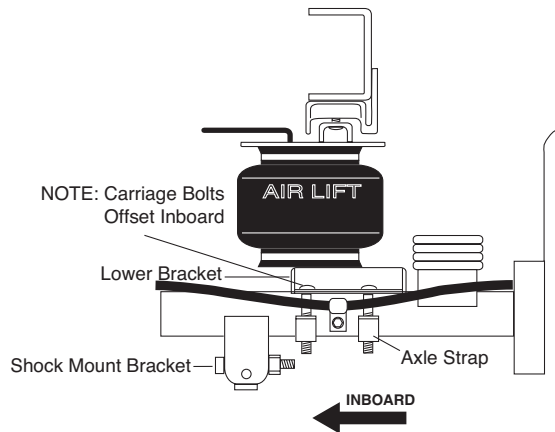

fig. 4
4. Attach the lower bracket to the bottom plate of the air spring using the mounting holes shown in Figure 2. The lower bracket will be offset outboard away from the air fitting (Figure 4). Attach with two 3/8” x 7/8” bolts, flat washers and lock washers. Torque to 20 ft/lbs. Assemble both units.
1. LOOSELY attach the lower bracket and straps around the axle using 3/8" x 3" carriage bolts, flat washers, and lock nuts. Both straps will be attached between the leaf spring stack and the shock mount bracket (Figure 4).
For Models with Disc Brakes: The inside strap on the passenger-side goes between the emergency brake cable bracket and the shock bracket on the axle (Figure 4).